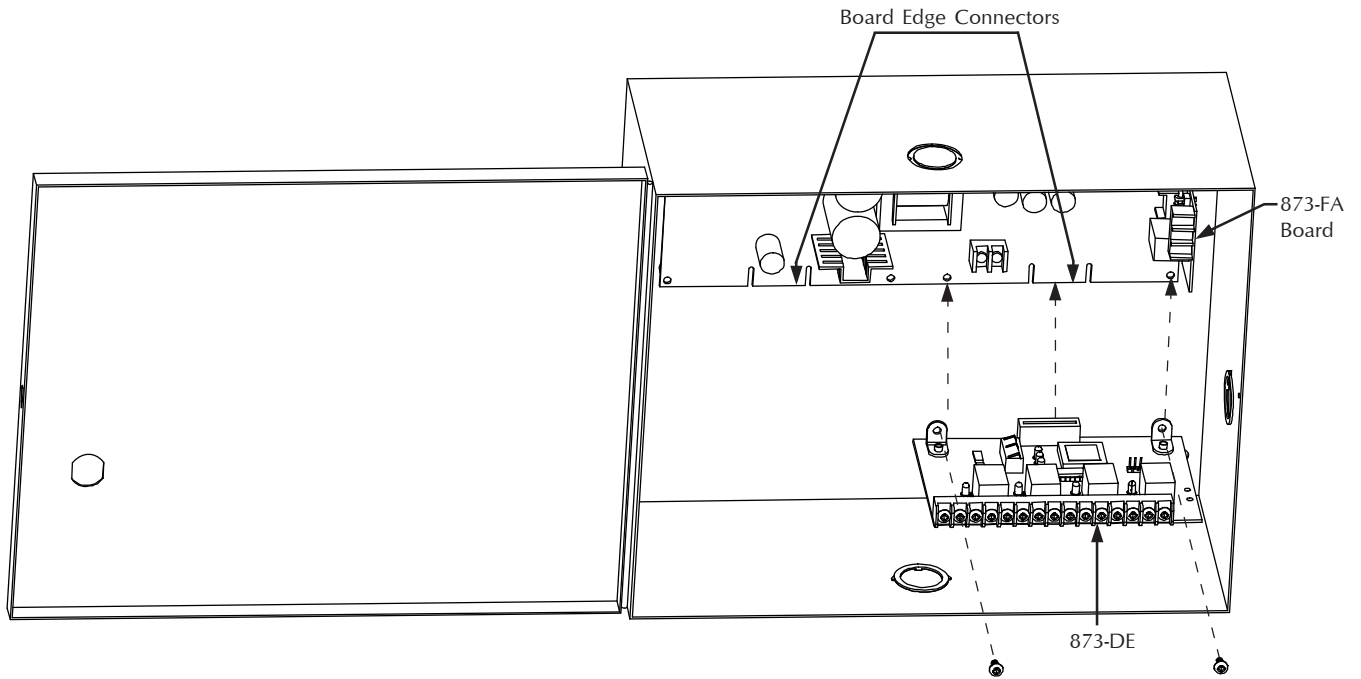

Figure 1. Installing the 873-DE.
873-DE and 873-FA boards normally are factory installed on the PS873 Power Supply. Refer to Figure 1 for locations. To add or replace an 873-DE or 873-FA board, follow the procedures below. Otherwise, go to “Configuration and Wiring.”
1. Connect the 873-DE as shown in Figure 1. Connect to either the left or right board edge connector.